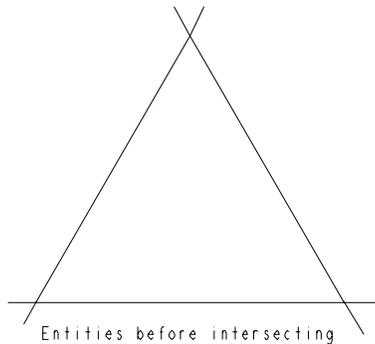
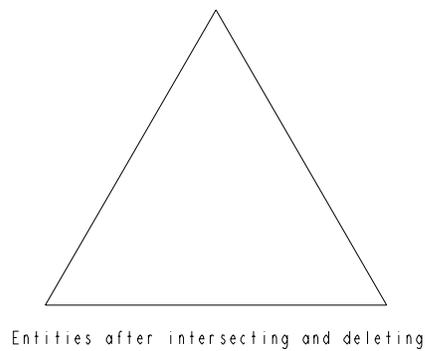

Figure 2-11 Three entities that split into nine entities after intersecting
Figure 2-12 The required sketch
The **Intersect** option is used to intersect two entities and convert them into separate entities at the point of intersection. You can delete the portion of the entity that is not required. The following steps explain the procedure to use the **Intersect** option. Refer Figure 2-11 and Figure 2-12:
3. Continue step 2 until you have intersected all the desired entities. Figure 2-11 shows a sketch with three lines extending beyond the intersection point and Figure 2-12 show the lines after intersecting and deleting the extended lines.